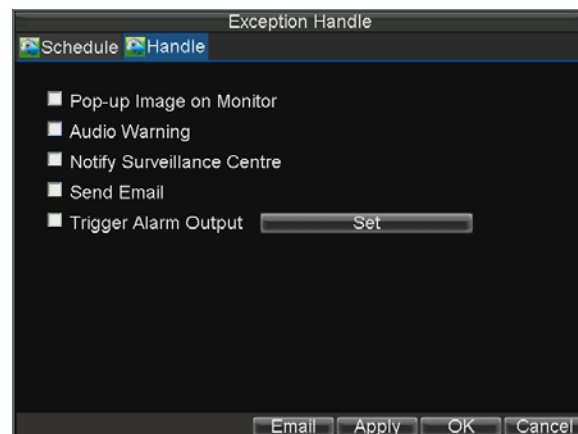

Figure14. Exception Handle Menu
5. Click the *Handle* button to enter the Exception Handle menu, shown in Figure 14.